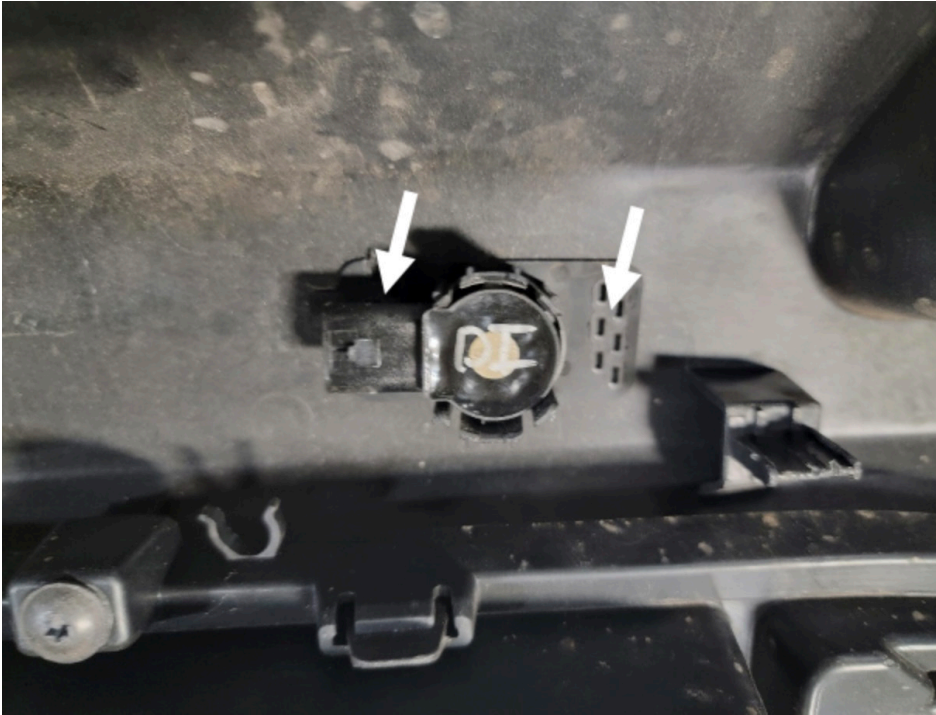

Figure 12
13. Remove the center 2x sensors from their housings following the instructions from step 11. Remove the housings using a flat head screw driver to carefully pry the welded housings from the bumper shell. Figure 12.